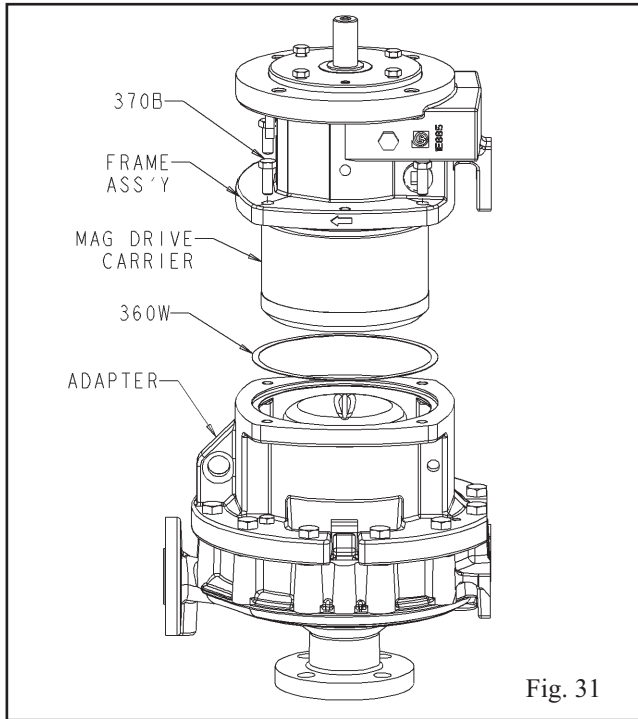

Fig. 31
3. Remove screws holding the bearing frame to the frame adapter (370B) (Fig. 31).
6. Remove the frame-to-adapter gasket (360W) (Fig. 31).